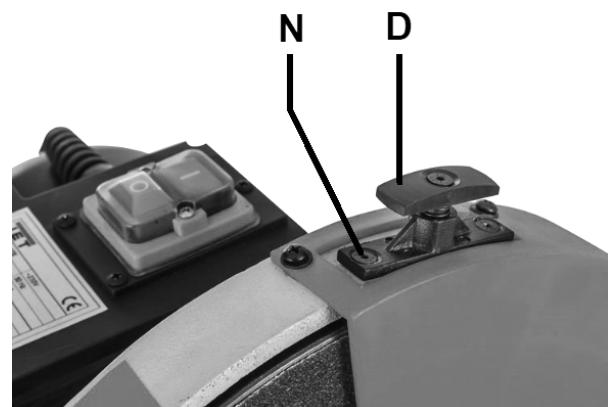

Fig 3
Attach the disc brake (D, Fig 3) with two hex socket screws (N).